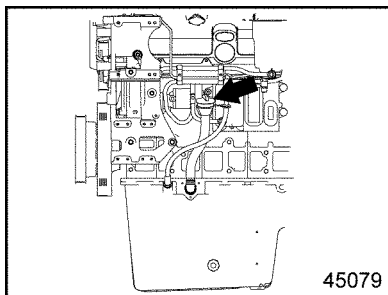

Figure 11 Oil Fill Tube
2. If necessary, top off by filling engine oil through the oil fill tube (See Figure 11) to the maximum fill level on the oil dipstick. Do not overfill.